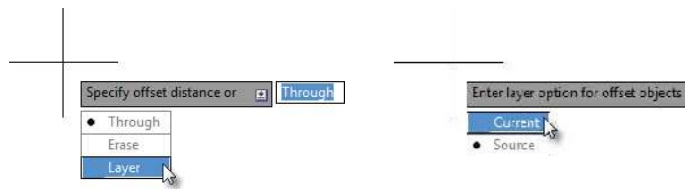

FIGURE 6.40: Choosing the Layer option (left) and the Current option (right)
- a. At the Specify offset distance or: prompt, press the down arrow and select the Layer option (see the top image of Figure 6.40).
- b.** The second prompt reads Enter layer option for offset objects. Press the down arrow and select the Current option, or enter **C** to instruct AutoCAD to create offsets on the current layer (A-ROOF), as shown in the bottom image of Figure 6.40.